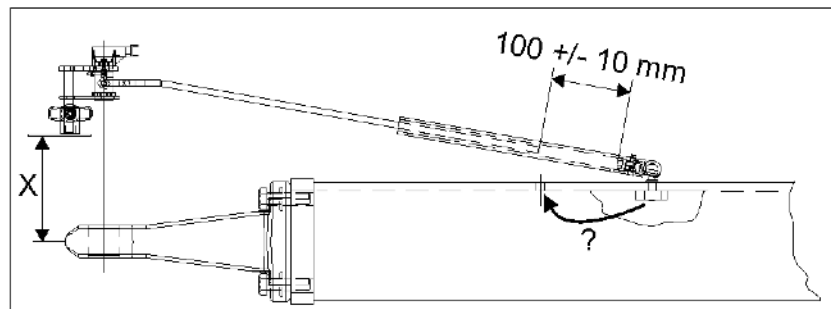

Fig. 82
- Keep the distance between the coupling point and position encoder (Fig. 82/ X) as small as possible (particularly with the hitch drawbar).